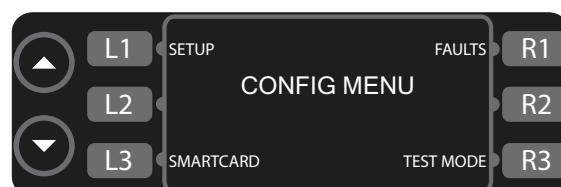
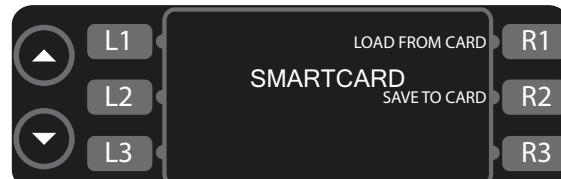

Figure 12: Config Mode
Figure 13: Smart Card Screen
The CONFIG MODE (Figure 12) serves four main purposes:
1. Press L3 (Figure 12) to access the smart card screen (Figure 13).
- Press R1 to load a menu from the smart card to the oven (Figure 13).
- Press R2 to save a menu from the oven to the smart card (Figure 13).
From the CONFIG MODE (Figure 12), press R1 to access the fault counts screen (Figure 16, page 16). The oven will display the number of faults that have occurred.
From the CONFIG MODE (Figure 12), press L1 to access the SETUP MODE. The SETUP MODE allows the user to customize several oven settings - see below for more details.
2. Press the R3 soft key (Figure 12, page 15).